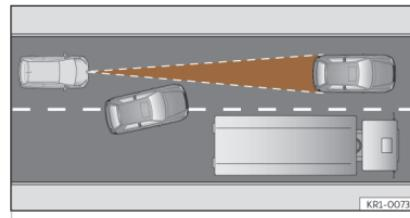

Fig. 126 Vehicle changing lanes.
- Vehicles that move into your lane, a short distance from your vehicle >>> Fig. 126.